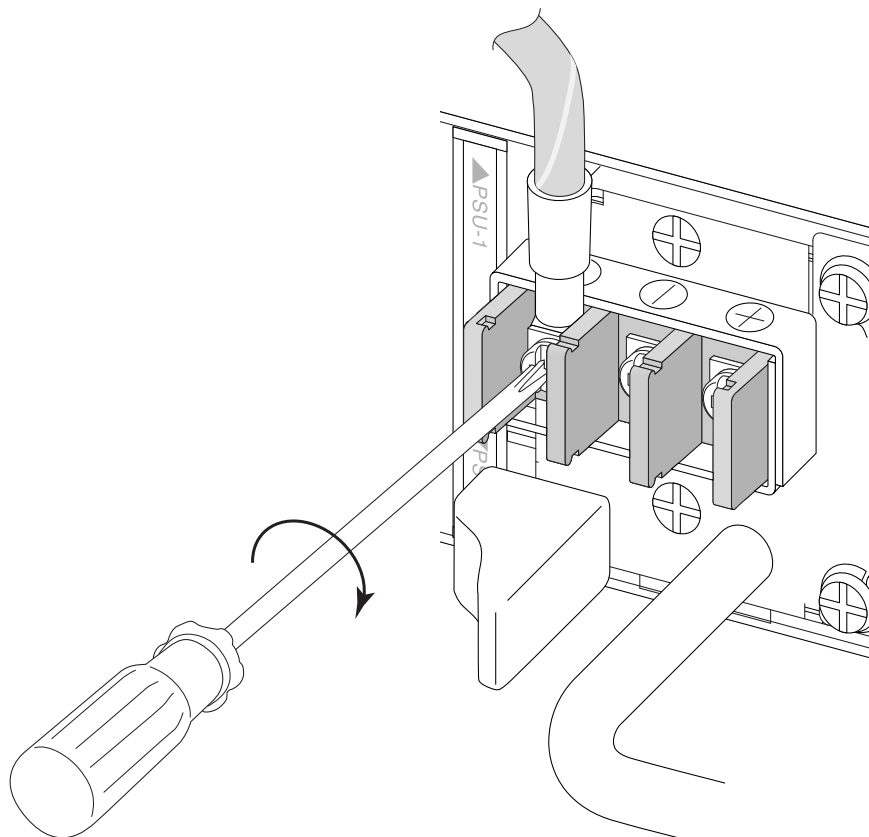

Figure 267: Securing the Ground Wire
- a Loosen the screw enough to allow the spade terminal to slide underneath the captive square washer (see Figure 267: Securing the Ground Wire on page 295).
- c Tighten the screw to 7 inch-pounds (0.99 Newton meters) (see Figure 267: Securing the Ground Wire on page 295).